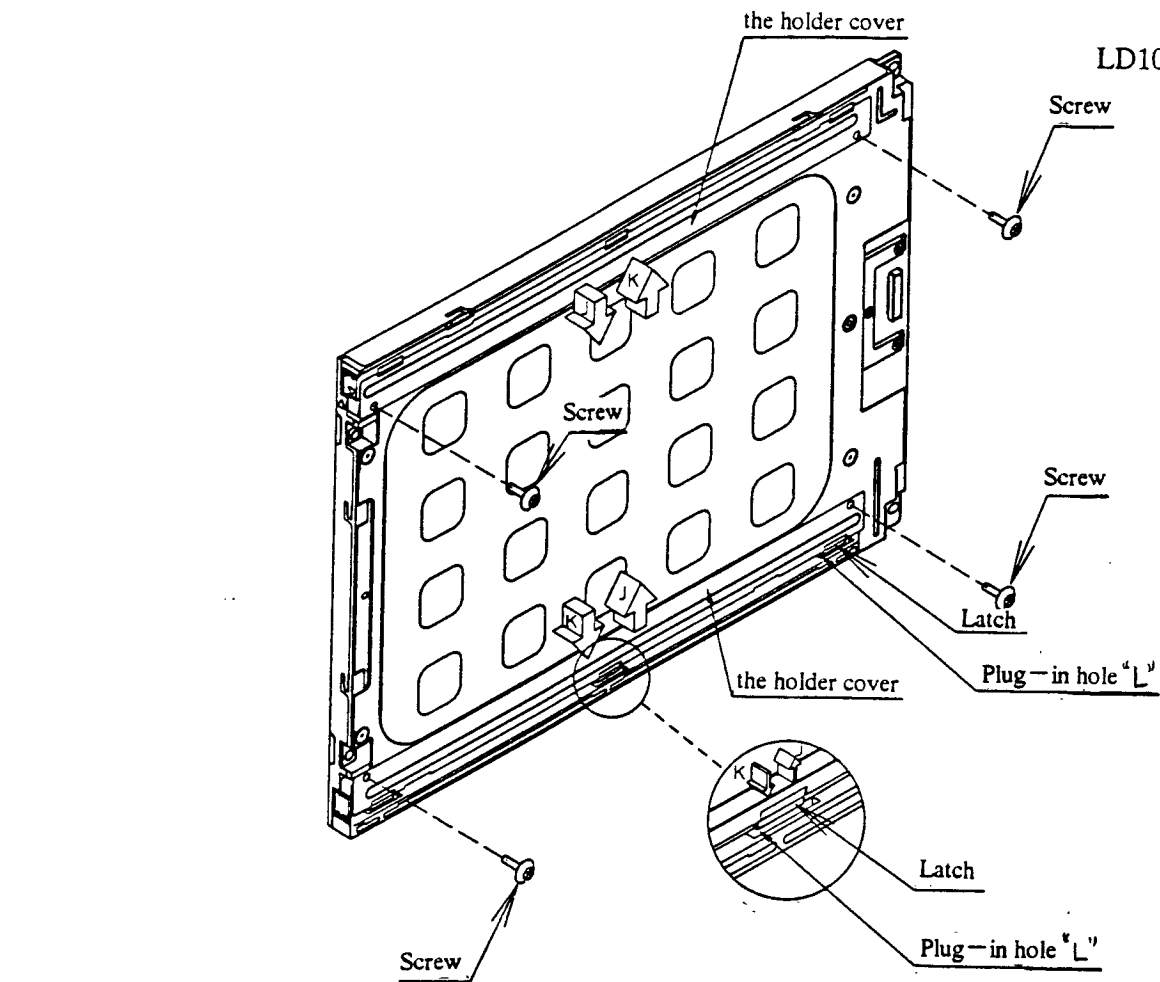

Fig. 4. Procedure to exchange backlight unit by back side
8- 2)By Backside (refer to Fig. 4 and Fig. 5)
- ① Remove 4 screws which holds the holder cover. (refer to Fig. 4)
- ② Slide the holder cover to the “J” direction. Then remove the holder covers.